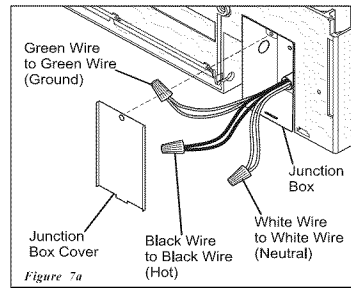

Figure 7a
1. Remove junction box cover and pull house wiring into junction box. See Figure 7a.